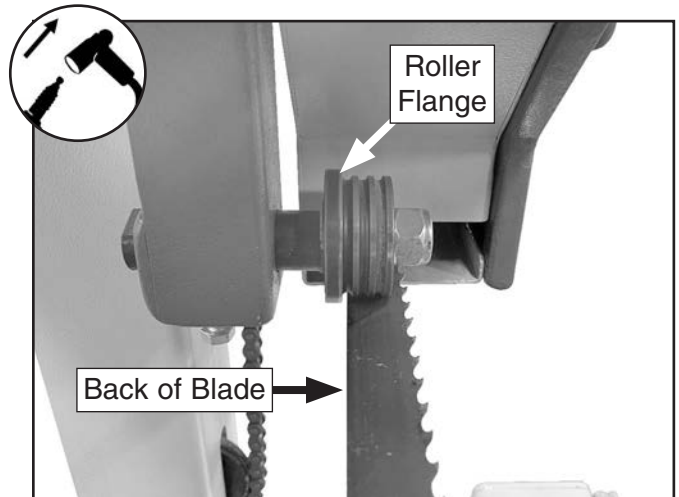

Figure 32. Distance from back of blade to roller flange.
2. Measure distance between back of blade and flange of roller (see **Figure 32**).